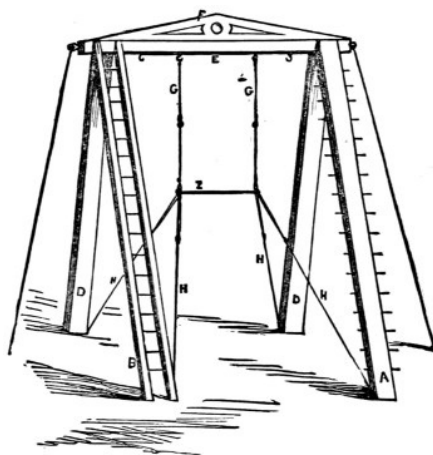

Fig. 7
This combination (Fig. 7) consists of a ladder-plank (A), two standing-planks (D D), and standing-ladder (B), all fourteen feet in length, which form the four supports to carry the cross-beam (E), ten feet long, to which may be suspended any apparatus you may wish. This is very similar to the Portable Horizontal Bar (Fig. 2), only carried out upon a large and more elaborate scale. If I were to describe its general construction, I should be merely recapitulating what has already been explained. This apparatus may be made any size, of course proportionately strong, G, G, H, H, and I, represent a bar with triangular ends stayed off to the bottom of the four uprights, which, when made tight, the bar becomes perfectly rigid, so that a trapeze bar may be converted into a horizontal bar if required.